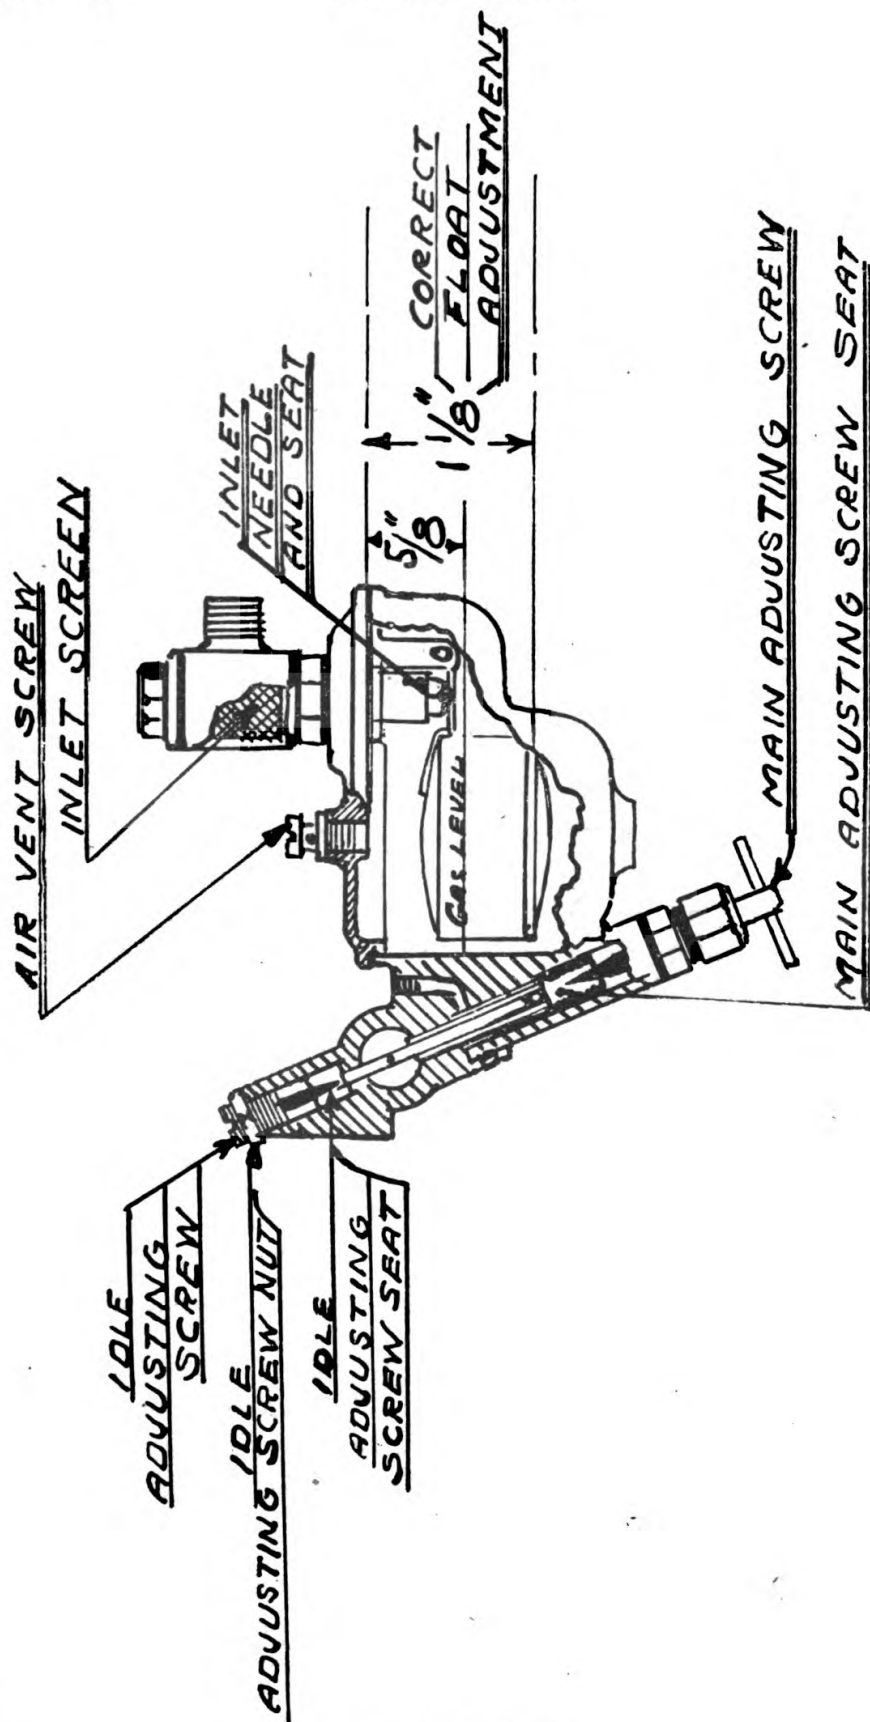

Figure 3—Carburetor
c. **How to Adjust Carburetor.**—(See Figure 3). The carburetor has two adjustments, one for full load and one for idling. To adjust for full load, turn the lower needle valve in, or to the right as far as it will go. Be careful not to force the needle against the seat. Then open the needle by turning to the left one turn and start the engine. After the engine is warmed up and running with the choke wide open, on full load, turn the needle valve to the right until the best running condition is obtained.
b. How to Adjust Carburetor.—(See Figure 3). This carburetor has two adjustments, one for full load and one for idling. To adjust for full load, turn the lower needle valve in, or to the right as far as it will go, being careful not to force the needle against the seat. Then open the needle by turning to the left one turn and start the engine. After the engine is warmed up and running with the choke wide open, on full load, turn the needle valve to the right until the best running condition is obtained.